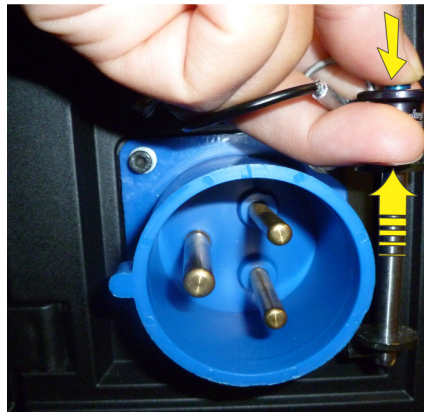

FIGURE 2-6
1. Remove the locking pin from the bracket surrounding the AC receptacle at the AC inlet of the projector by pressing down on the button on the end of the locking pin, and then pull upwards on the pin to remove it, as shown in *Figure 2-6*.